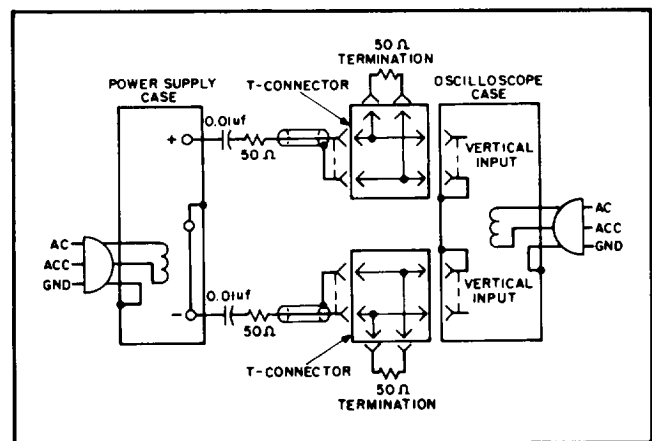

Figure 5-7, CV Noise Spike, Test Setup
1. As shown in Figure 5-7, two coax cables, must be substituted for the shielded two-wire cable.
5-33 The circuit of Figure 5-7 can also be used for the normal measurement of low frequency ripple and noise; simply remove the four terminating re-
sisters and the blocking capacitors and substitute a higher gain vertical plug-in in place of the wide-band plug-in required for spike measurements. Notice that with these changes, Figure 5-7 becomes a two-cable version of Figure 5-6C.